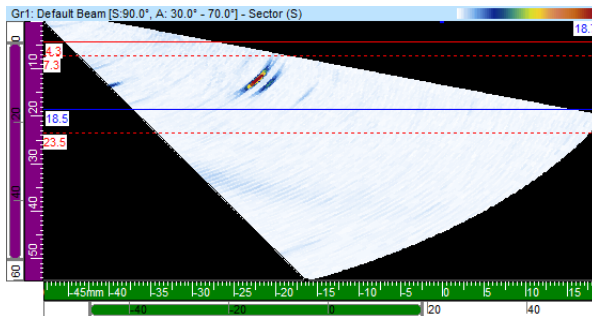

Figure 4-18 Example of cursors around an indication in a Sector (S) view
2. In TomoView, in a Side (B), End (D), or Sector (S) view, position the **Reference** (red) and **Measurement** (blue) cursors respectively above and below the reference reflector of the calibration block (see Figure 4-18 on page 245).
4. In TomoView, in a Side (B), End (D), or Sector (S) view, position the reference (red) and measurement (blue) cursors respectively above and below the reference reflector of the calibration block (see Figure 4-18 on page 245).